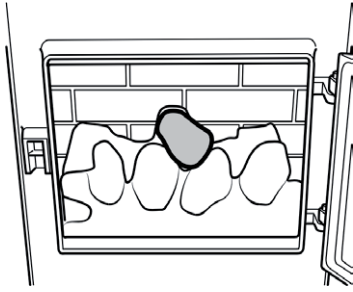

Figure 6
8. Locate one of the ceramic coals identified with a number '1' as in figure 6.